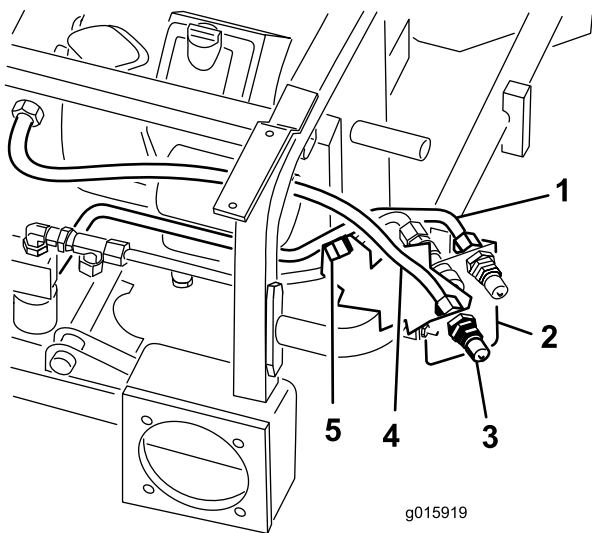

Figure 16
8. Loosely install hydraulic line (hose) number 5 to the lower male coupler (Figure 16). The other end of this hose will be installed in Step 10.